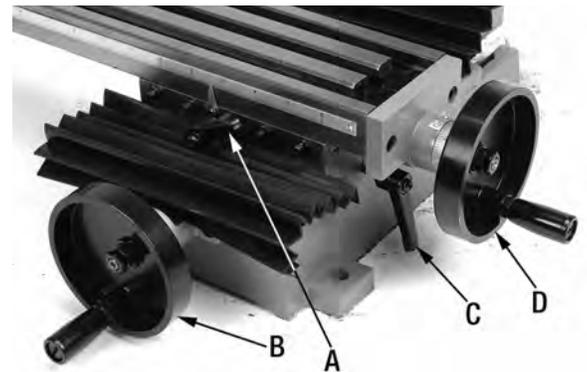

FIGURE 10
1. Before making any X-axis (transversal travel) adjustments to the milling table, loosen X-axis lock handle (A) Fig.10.
2. To adjust the position of the milling table in the X-axis (transversal travel), turn front handwheel (B) Fig.10.
3. Before making any Y-axis (longitudinal travel) adjustments to the milling table, loosen Y-axis lock handle (C) Fig.10.
4. To adjust the position of the milling table in the Y-axis (longitudinal travel), turn side handwheel (D) Fig.10.